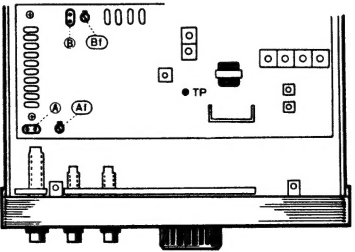
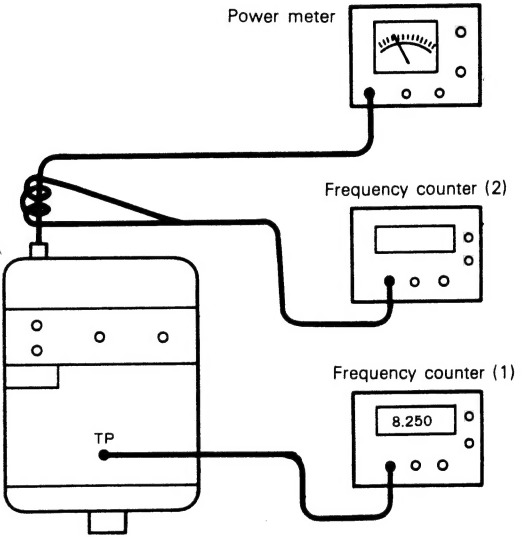

FIG. 18 INSTALLATION OF OPTIONAL CRYSTALS
FIG. 19 FREQUENCY ADJUSTMENT
Remove the upper lid of the case fixed with 2 screws. Then, insert the crystal of desired channel into the crystal socket on the printed circuit board (Fig. 18).
- (1) Connect the frequency counter (1) to the TP terminal and the power meter to the ANT terminal (see Fig. 18 and Fig. 19).
- (2) Perform adjustment on the bands of additional channels by referring to Table 3 below.
- (3) Connect the frequency counter to the point (2) and set the unit in CW transmit mode. Change the position of the channel indicator from A to B, C and D to check that the frequency increases by 5kHz at each position.